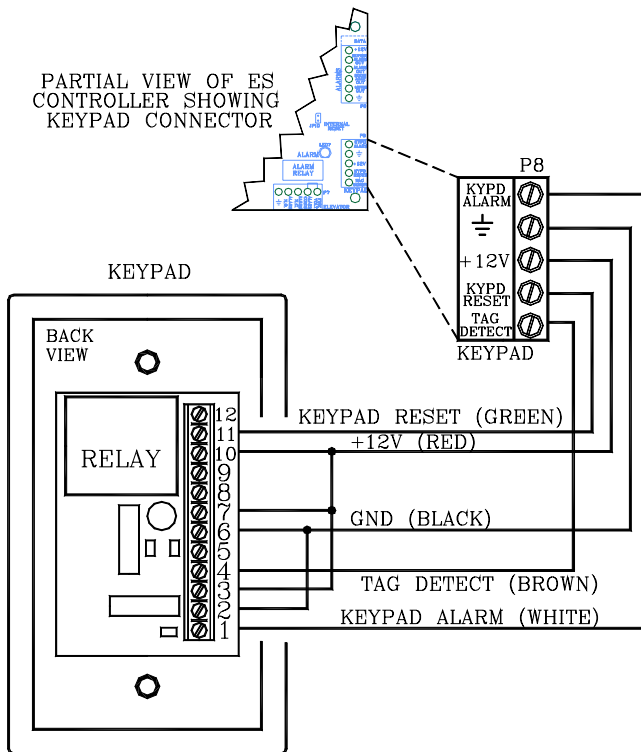

Figure 7.4 Connecting the Keypad to the Controller with Tag Detect option
8. If you are using the **Tag Detect option (Figure 7.4)**, with the BROWN wire,